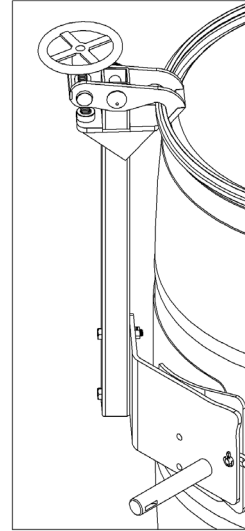

Figure 1
1. Turn hand wheel (item 2) counter clockwise to open top jaw.
3. Turn hand wheel clockwise until top jaw is pressing tightly against top of drum (see Figure 1).